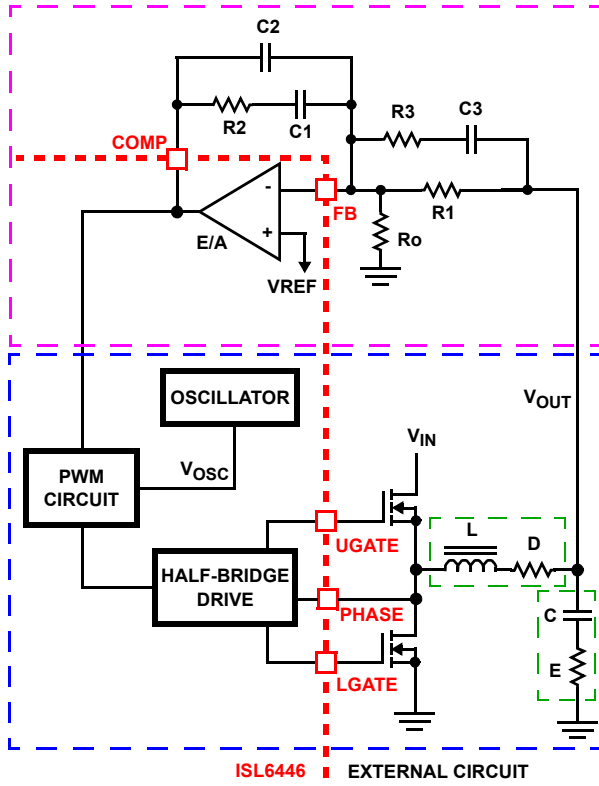

FIGURE 26. VOLTAGE-MODE BUCK CONVERTER COMPENSATION DESIGN
Figure 26 highlights the voltage-mode control loop for a synchronous-rectified buck converter, applicable to the ISL6446 circuit. The output voltage (V_{OUT}) is regulated to the reference voltage, V_{REF} . The error amplifier output (COMP pin voltage) is compared with the oscillator (OSC) modified sawtooth wave to provide a pulse-width modulated wave with an amplitude of V_{IN} at the PHASE node. The PWM wave is smoothed by the output filter (L and C). The output filter capacitor bank's equivalent series resistance is represented by the series resistor E.
The compensation network consists of the error amplifier (internal to the ISL6446) and the external R1-R3, C1-C3 components. The goal of the compensation network is to provide a closed loop transfer function with high 0dB crossing frequency (F_0 ; typically 0.1 to 0.3 of F_{SW}) and adequate phase margin (better than 45°). Phase margin is the difference between the closed loop phase at F_{0dB} and 180° . The equations that follow relate the compensation network's poles, zeros and gain to the components (R1, R2, R3, C1, C2, and C3) in Figure 26. Use the following guidelines for locating the poles and zeros of the compensation network:
1. Select a value for R1 (1kΩ to 5kΩ, typically). Calculate the value for R2 for desired converter bandwidth (F_0). If setting the output voltage via an offset resistor connected to the FB pin, R_o in Figure 26, the design procedure can be followed as presented in Equation 13.